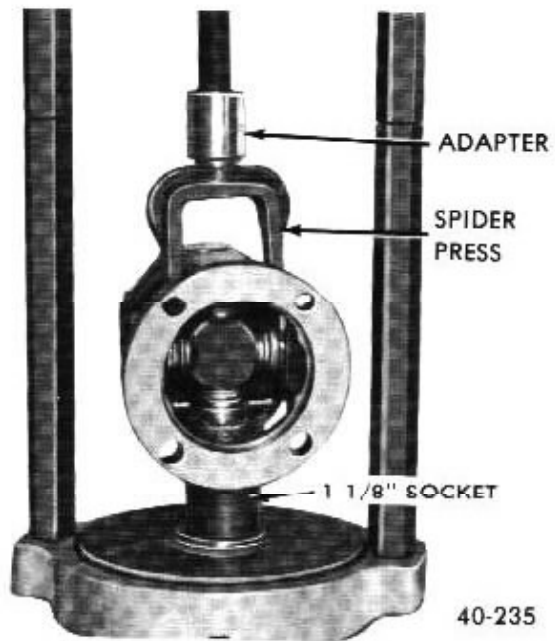

Figure 40-64 Disassembling Rear CV Rear U-Joint
3. Support the propeller shaft horizontally in line with the base plate of a press. Place the rear ear of the coupling yoke over a 1 1/8" socket. Place the spider press (J-9522-3) on the bearing cups in the flange yoke. See Figure 40-64.